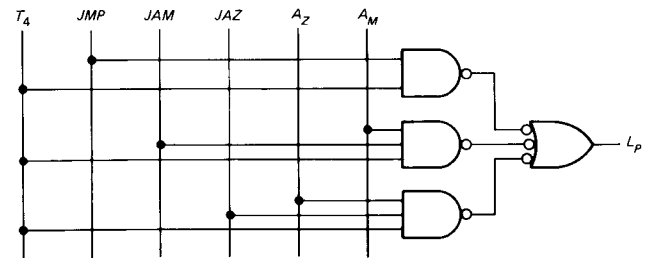

Fig. 3-34
- 3-25. In Fig. 3-34 the inputs are T_4 , JMP , JAM , JAZ , A_M , and A_Z ; the output is L_p . What is the output for each of these input conditions?